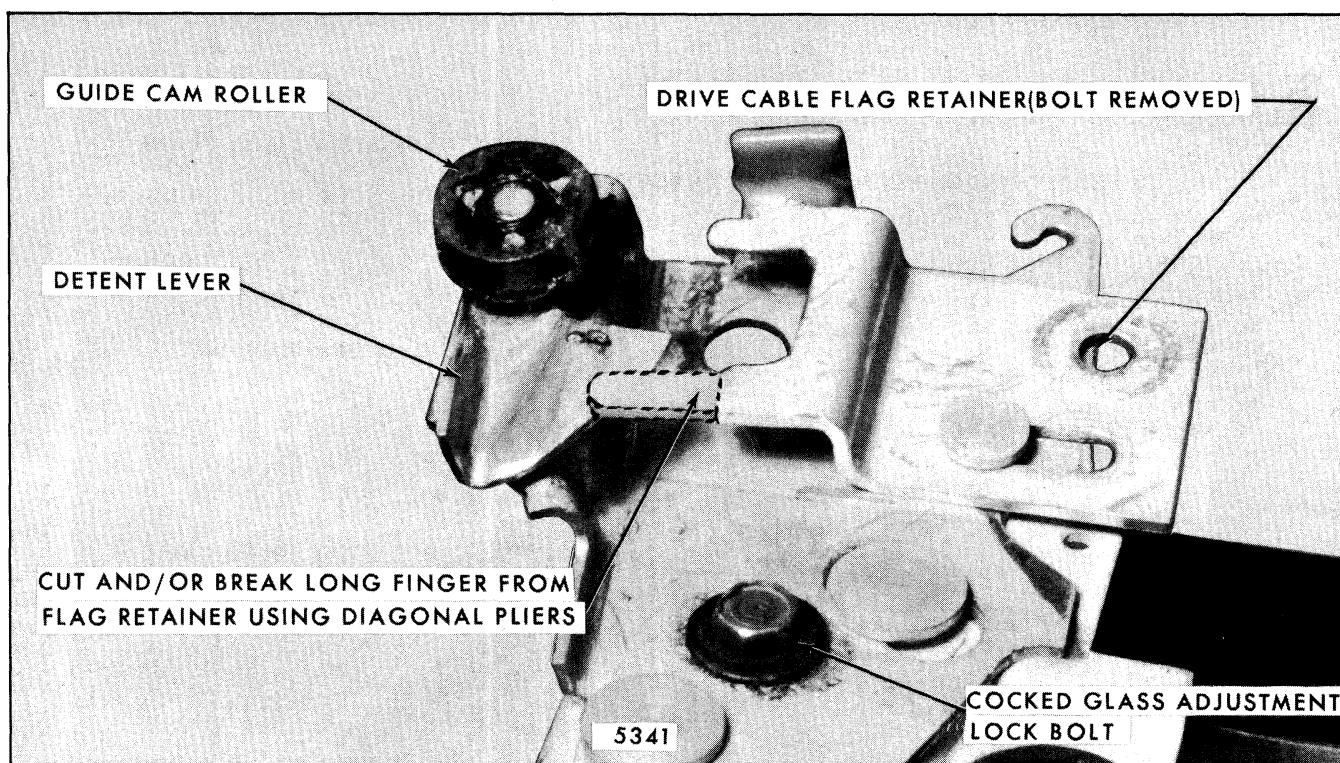

Fig. 7-132-Removing Long Finger from Flag
9. Using diagonal pliers (side cutters) cut and/or break long finger from lower tab of drive cable flag retainer as shown in Figure 7-132.